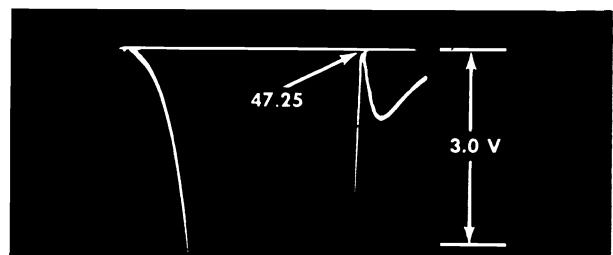

Fig.7 Expanded View of the 47.25 MC Trap Frequency.
5. Connect the sweep generator to terminal "A" converter grid (Refer to appropriate tuner tube and trimmer layout). Connect terminal "F" to chassis and connect a jumper between terminal "E" and the bottom end of the 68 ohm resistor in the cathode of the first IF. This provides a "blow up" of the 47.25 Mc trap (Fig. 7). Adjust the 47.25 Mc trap for minimum marker amplitude.
5. Connect the sweep generator to Test Point "A" on VHF tuner. Short test points "E" and "F" to chassis ground. This will provide a "blow up" of the 47.25 Mc trap response as shown in Fig. 7. Adjust the 47.25 Mc trap (top slug of T1) for minimum marker amplitude.